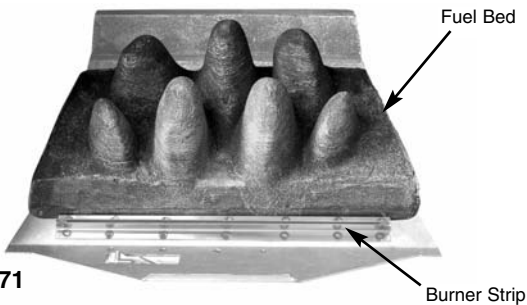

Fig. 71
2. Place the main fuel bed on to the middle section of the metal burner tray. It is important that the front edge of the fuel bed is located behind the burner strip (Fig. 71).